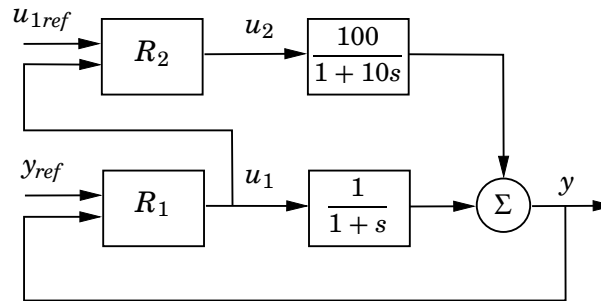

Figure 10.2 Mid-range control of a steam flow.
- 10.3a.** The block diagram is shown in Figure 10.2.